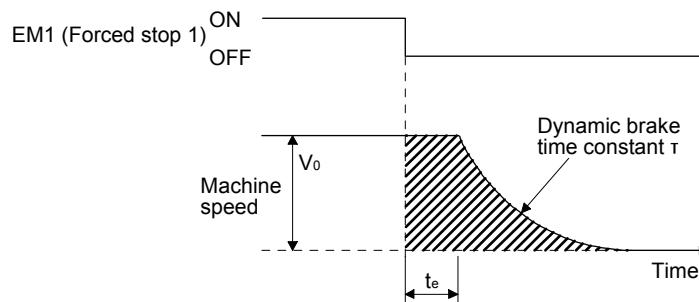

Fig. 16.3 Dynamic brake operation diagram
Fig. 16.3 shows the pattern in which the servo motor comes to a stop when the dynamic brake is operated. Use equation 16.1 to calculate an approximate coasting distance to a stop. The dynamic brake time constant τ varies with the direct drive motor and machine operation speeds. (Refer to (1) (b) of this section.)